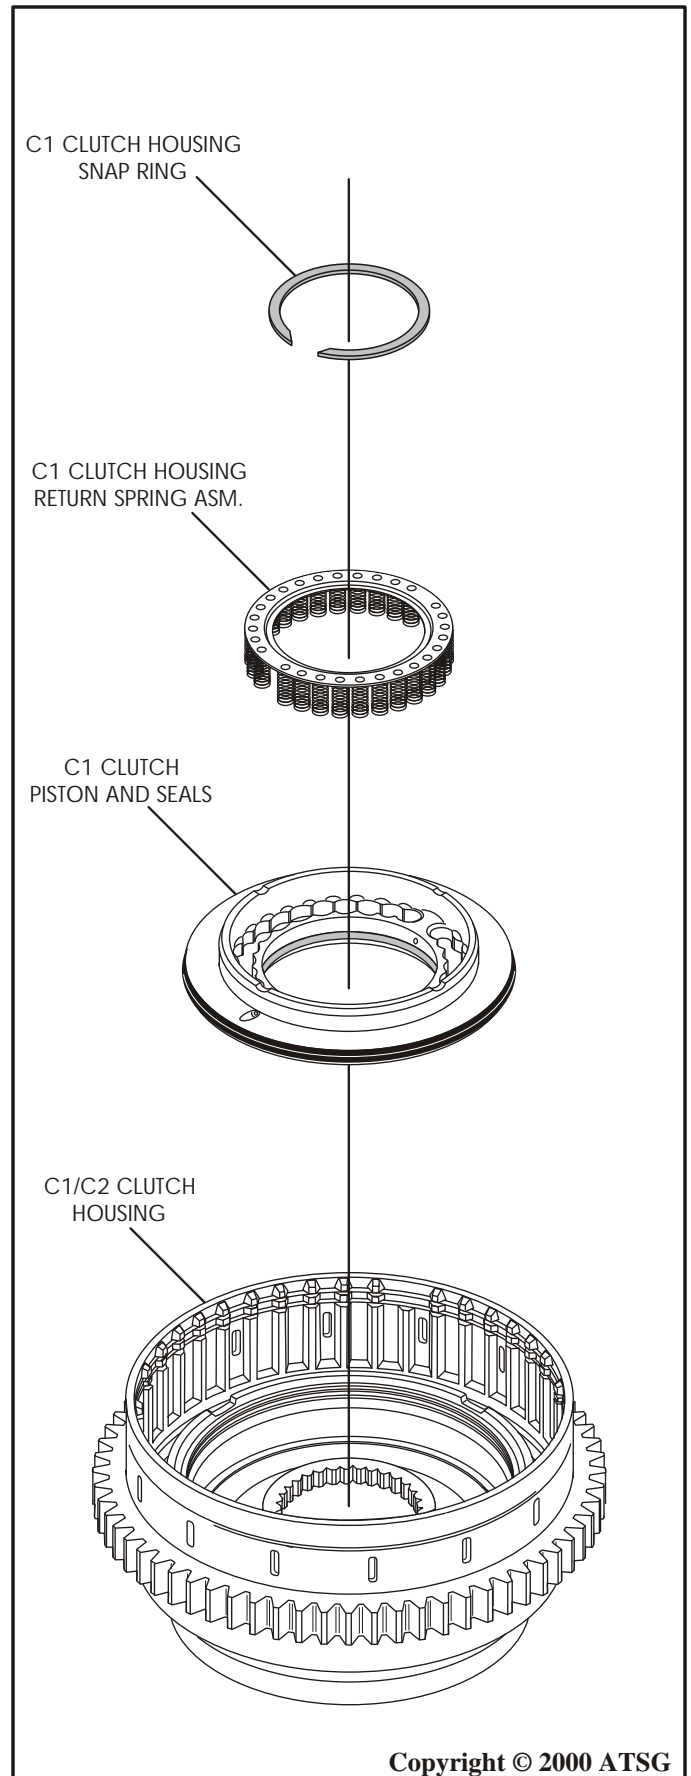

Figure 108
17. Lubricate both the seals with a small amount of TransJel®, and install piston into the C1 clutch housing, as shown in Figure 108.
18. Install C1 clutch piston return spring assembly onto the C1 clutch piston (See Figure 108).
19. Compress the return spring and install the snap ring into the groove ensuring that it is properly seated (See Figure 108).